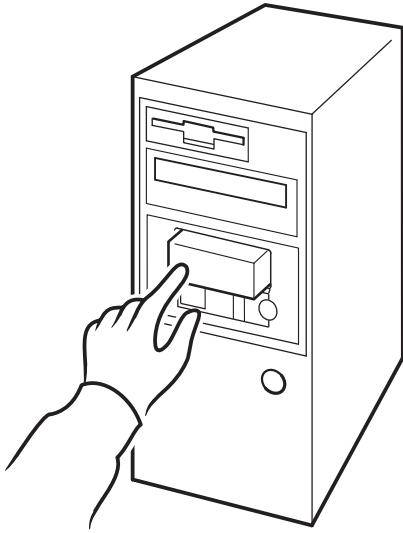

Figure 17a: hp obdr, step 1
- 1 Insert the latest bootable cartridge in slot 1 of the magazine and put it in the autoloader (see figure 17a). The cartridge must be written by a backup application that writes data to tape in CD-ROM format.